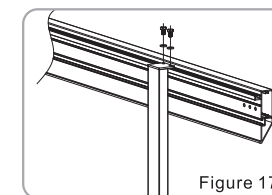

Figure 17
8. Please install the Support Bar onto the frame and fix it with screws (It is provided when the width of the frame is over 4 meters). (see figure 17)